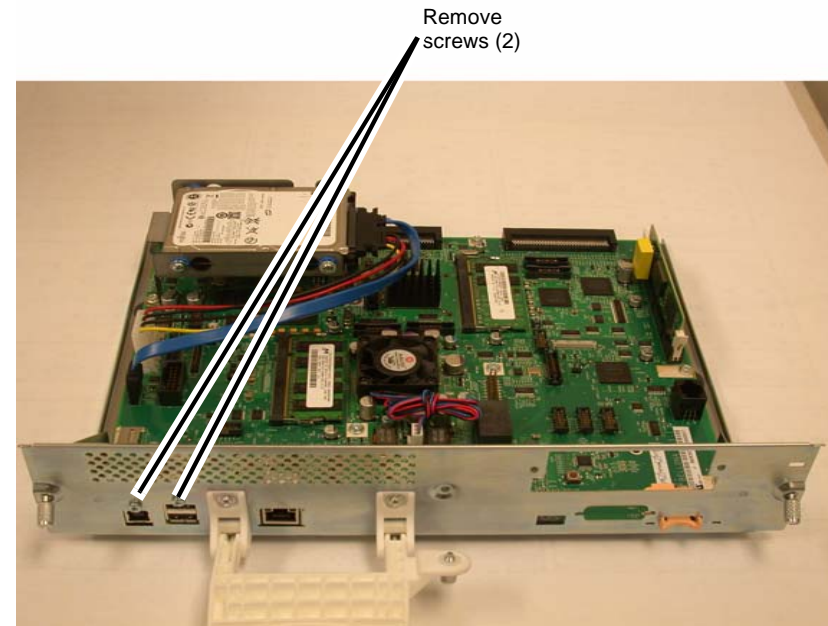

Figure 2 Removing the edge connectors
7. Unscrew the edge connectors (Figure 2).